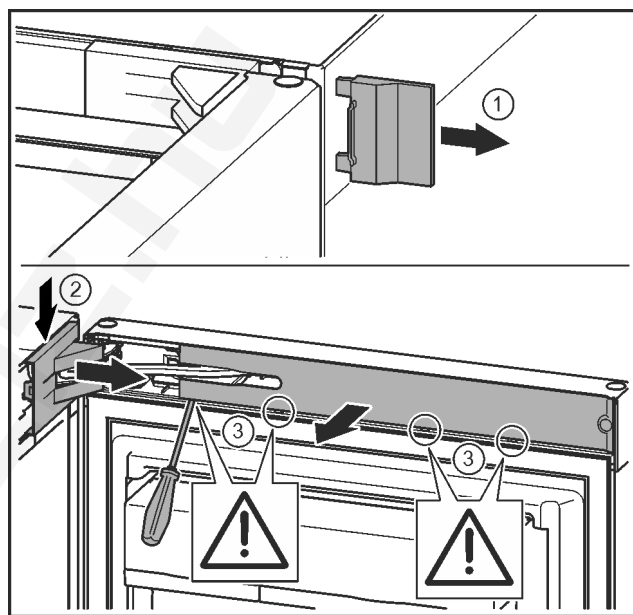

Fig. 10
- Remove the outer cover. Fig. 10 (1)
- Disengage and release the bearing bracket cover. Remove the bearing bracket cover. Fig. 10 (2)
- Unlatch the panel with a slotted screwdriver and swivel it to one side. Fig. 10 (3)